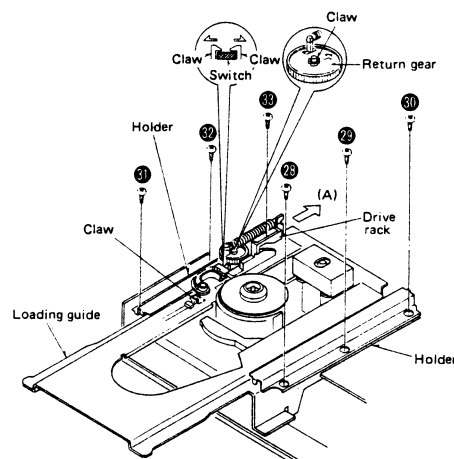

Fig. 11
2. Release the 2 claws of close switch cover to release the switch. (Fig. 11)
3. Remove the 6 setscrews [Fig. 11 ; ②⑤ ~ ③①] on the right and left sides of loading guide holder. Then the loading guide can be removed.
2. Release the return gear claw to remove the return gear. [Fig. 11]
3. Push the drive rack in the direction of arrow (A), and release the drive rack claw, then the drive rack can be removed downward. [Fig. 11]
3. Remove the loading guide holder setscrews [Fig. 11 : ② ~ ④], (Disc holder is fitted to loading guide.)